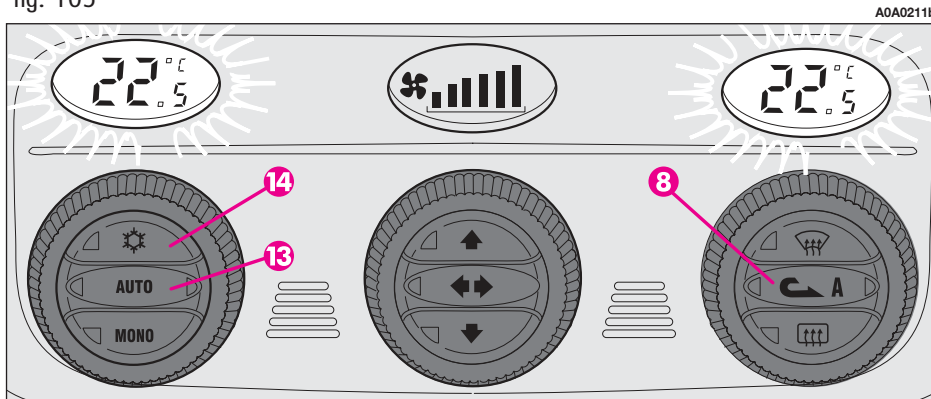

fig. 106
With the climate control compressor off, it is not possible to admit air to the passenger compartment with a temperature below the outside temperature; in this case, the value flashes on the display concerning the temperature that cannot be reached and the left led on button (13) **AUTO** - fig. 106) goes off.